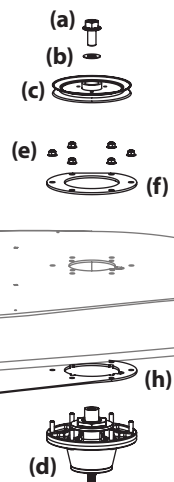

Figure 51
6. Remove the hex flange bolts (a) and flat washers (b) securing the left and right spindle pulleys (c) to the spindle assembly (d). See Figure 51.
7. Remove the six (6) flange lock nuts (e) securing the left and right spindle assemblies (d) and the support plates (f) to the deck shell (g). See Figure 51 on page 29.
10. Reverse the process to install the spindle assembly. When installing the new spindle assembly be sure to install the hardware exactly as shown in Figure 51 on page 29. Torque the hex flange bolts to 250 ft-lbs and the flange lock nuts to 21-32 ft-lbs.